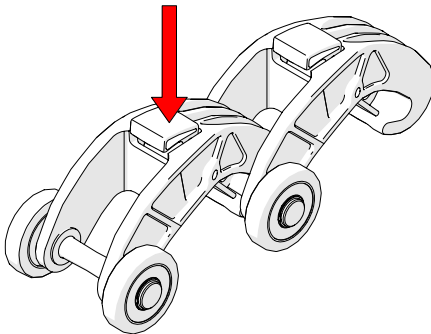

Fig. 70 - Press button
1. Press the button on the top of the QuickLink (Fig. 70).